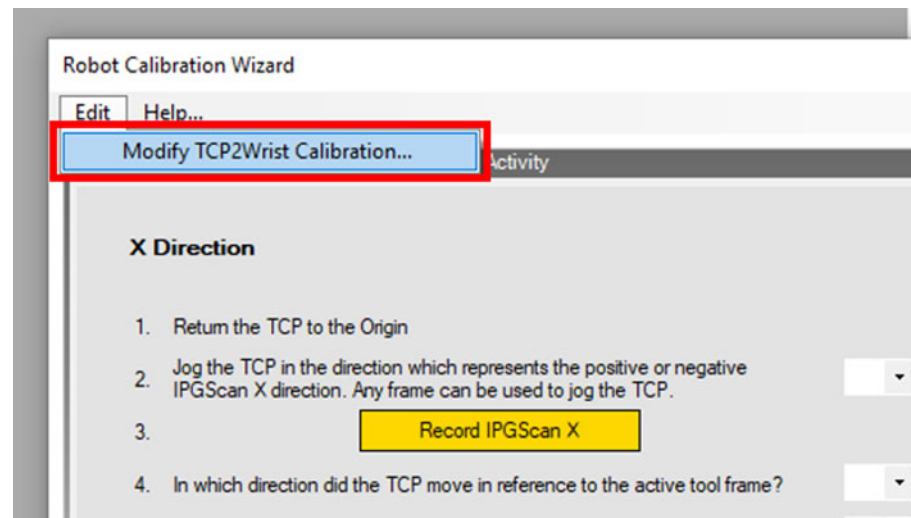

Figure 277: Opening the "Modify Calibration File" Window
2. Click "Modify TCP2Wrist Calibration." See Figure 277 (below).